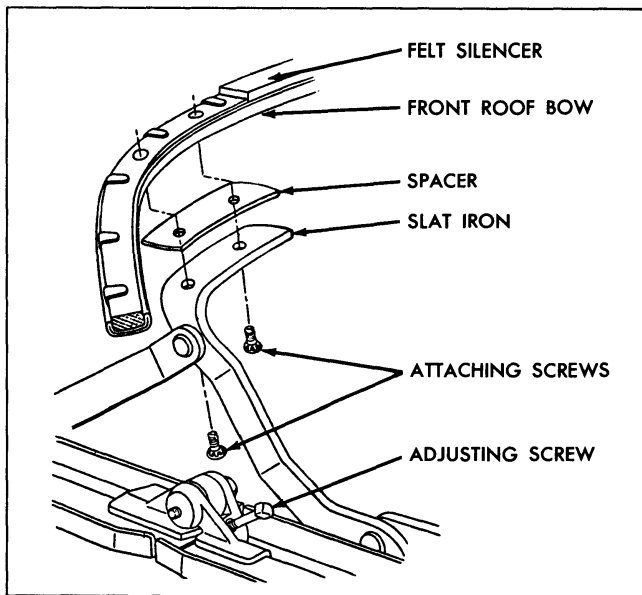

Fig. 22-23 View "B" in Fig. 22-21
is encountered at the front roof rail or if a closer fit of the front roof rail to windshield header is desired, proceed as follows: (Fig. 22-23).
2. Center side roof rail hinge adjusting screw improperly adjusted.	Adjust screw counterclockwise (Fig. 22-23).
2. Center side roof rail hinge adjusting screw improperly adjusted.	Adjust screw clockwise (Fig. 22-23).
2. Front roof bow felt silencer too high.	Trim silencer to within 1/8" of top of front roof bow (Fig. 22-23).